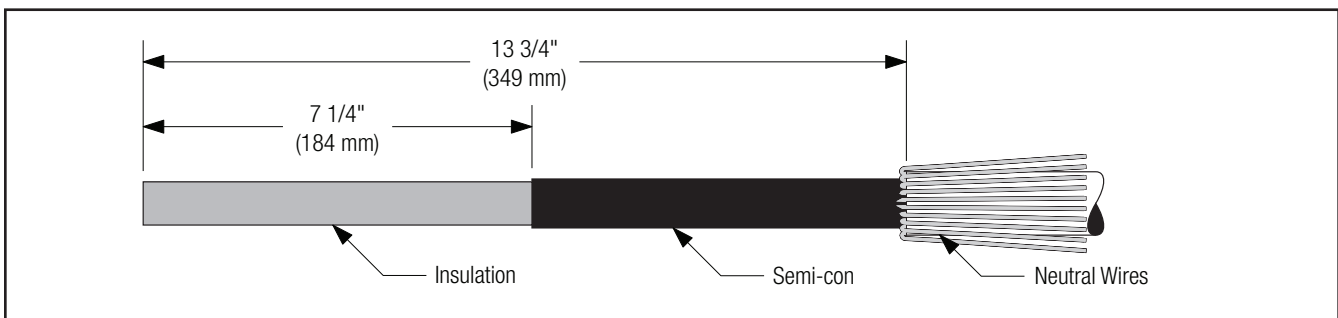

Figure 3
- 2.2.1 Prepare cables according to standard procedures. Refer to template provided or illustration below for proper dimensions (Figure 3).